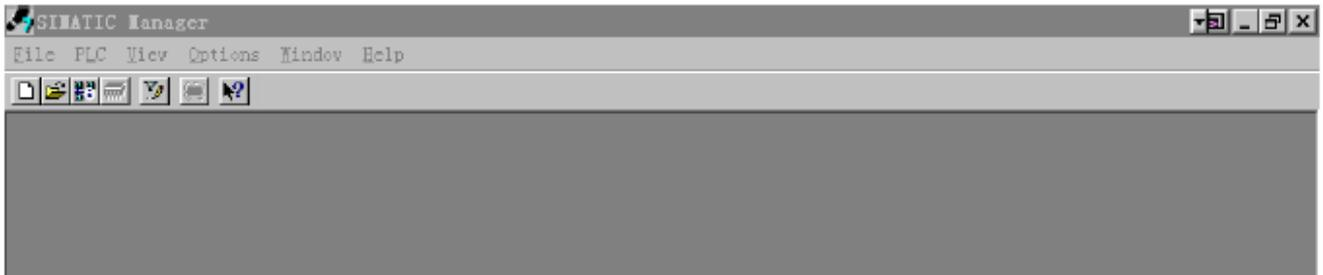

Figure 1
1. Open SIMATIC Manager ; Figure 1: